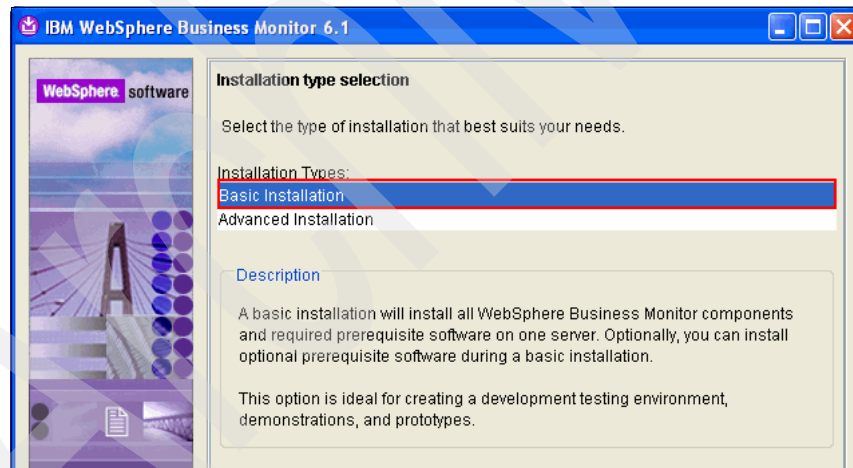

Figure 3-23 WebSphere Business Monitor installation: Installation type selection
6. In the Installation type selection panel (Figure 3-23), select **Basic Installation** and click **Next**.